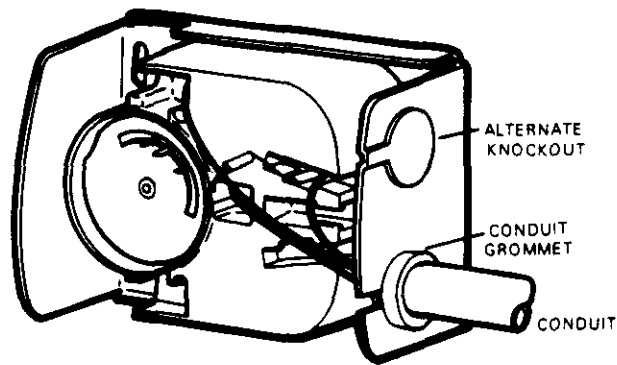

Figure 21 (4-020)
12. Remove fan/limit control alternate knockout. Remove conduit and conduit grommet from original fan/limit control knockout. See Figure 21.